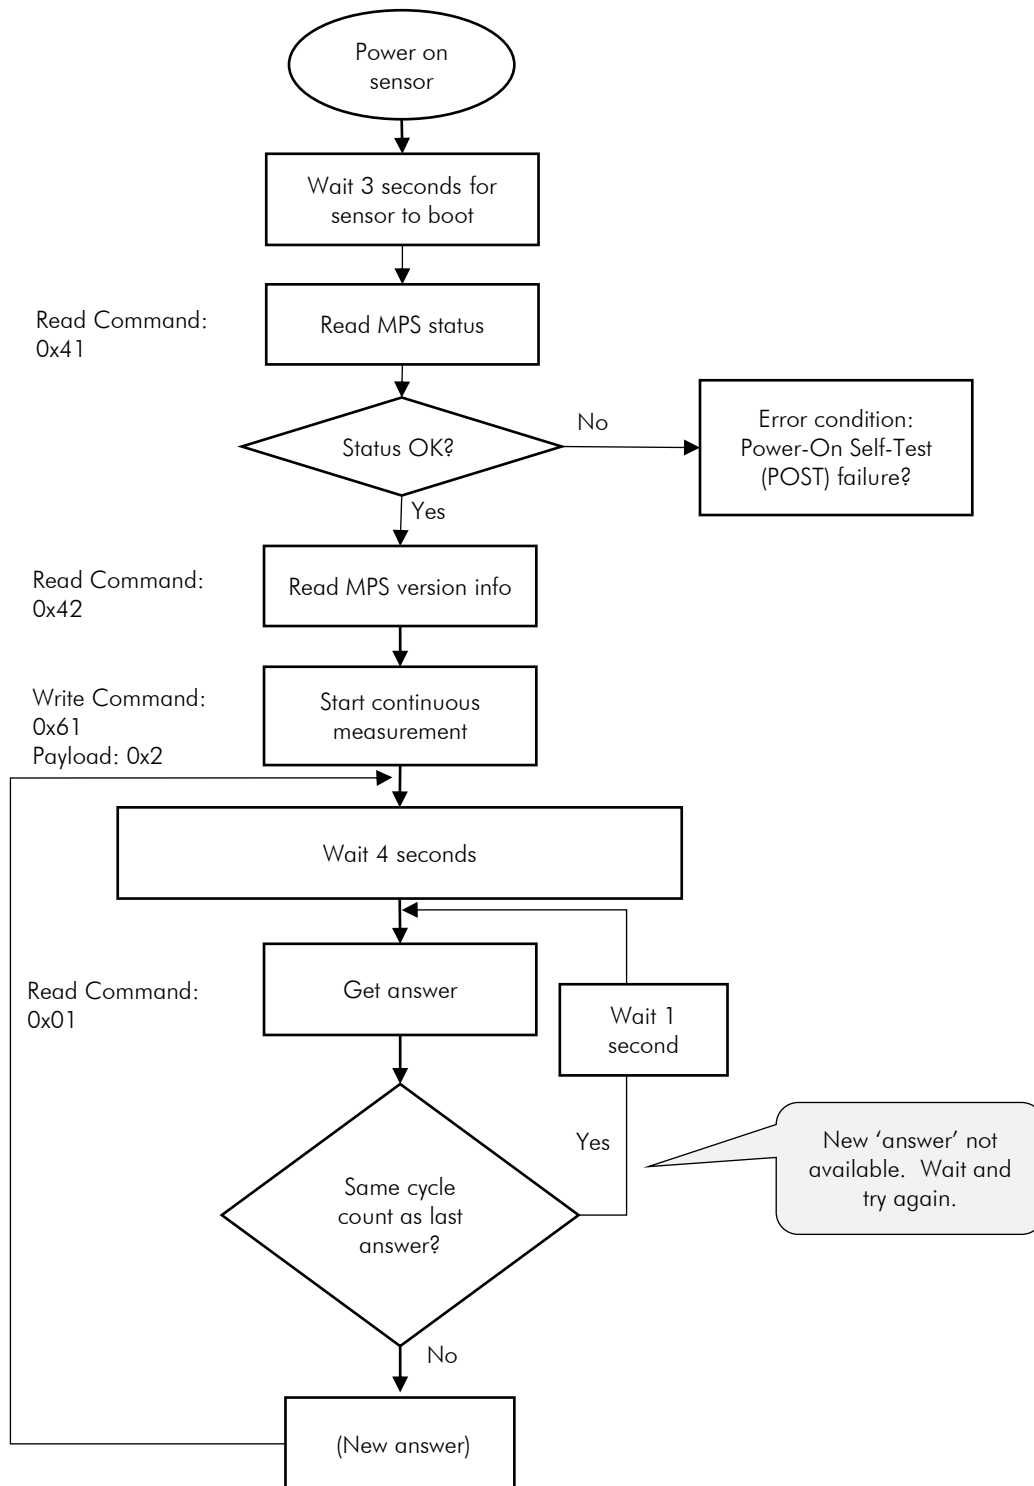

Figure 5: Startup and Measurement Sequence for Synchronous Communication
Figure 5 describes the recommended steps after powering on the sensor plus the measurement sequence for getting answer data in the synchronous communication mode. The major steps consist of the following:
- Repeat process to get answer at the rate shown in Figure 5.